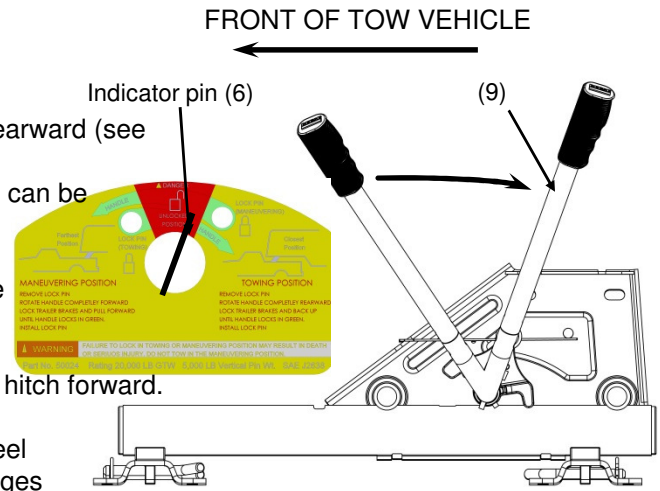

Figure 17
3. Remove lock pin from maneuvering hole and push handle (9) rearward (see Figure 17). If handle (9) is hard to move it may be wedged into the latching hole in the slider tube (7). This can be remedied by slightly moving the truck back or forth until the handle (9) moves freely. Repeat step 2 if needed.
4. Indicator pin (6) should be over the red unlocked range near the green towing range (see Figure 17). Spring pressure will press latch against top of tube.